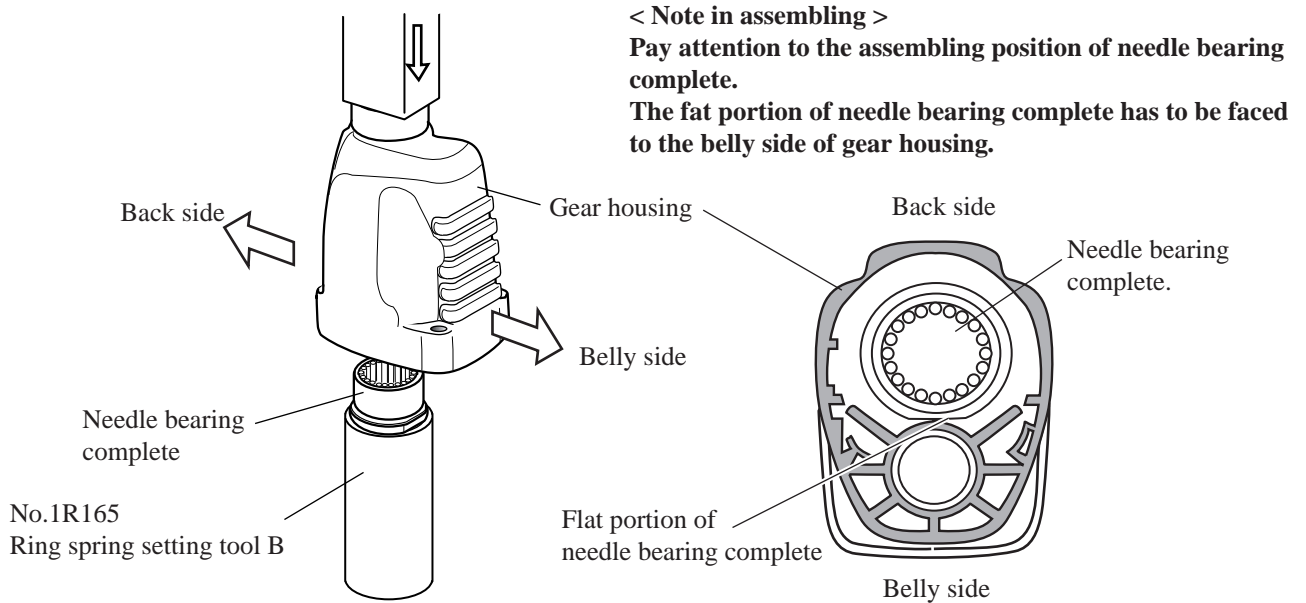

Fig. 13.
2. Putting needle bearing complete on No.1R165 "Ring spring setting tool B" press gear housing onto the needle bearing complete with arbor press as illustrated in Fig. 13.